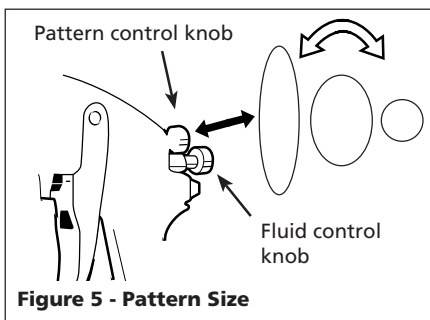

Figure 5 - Pattern Size
2. Set pattern size to desired shape. For full pattern, open pattern control knob by turning counterclockwise. For a round pattern, turn pattern control knob clockwise (See Figure 5).
3. Turn fluid control knob fully clockwise until closed (See Figure 5).
5. Unscrew packing nuts and replace the packing **ONLY** if a leak will not stop when the nut is tightened (See Figure 5). Do not over-tighten a packing nut because this will restrict movement of the needle.